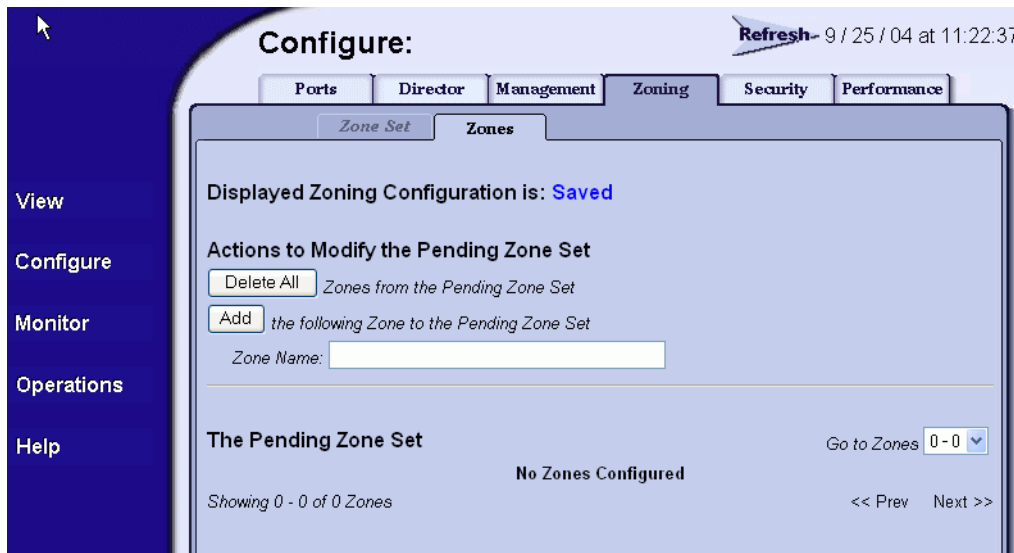

Figure 2-28 Configure Panel (Zoning Page with Zones Tab)
1. At the *Configure* panel, click the *Zoning* tab. The *Zoning* page displays with the *Zone Set* tab selected. Click the *Zones* tab. The *Zoning* page displays with the *Zones* tab selected (Figure 2-28).